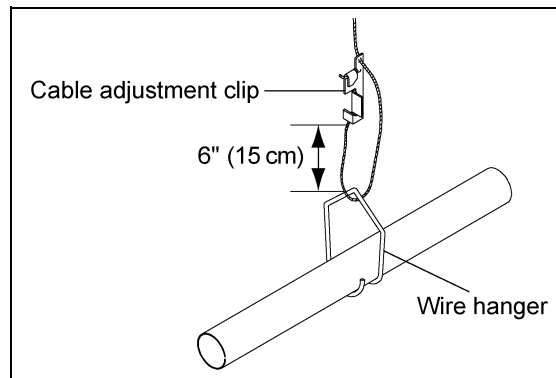

Figure 7DG
12. Cut the drop cable long enough for installation from the winch cable, through the hanger to the cable adjustment clip. (See Figure 7DG.)